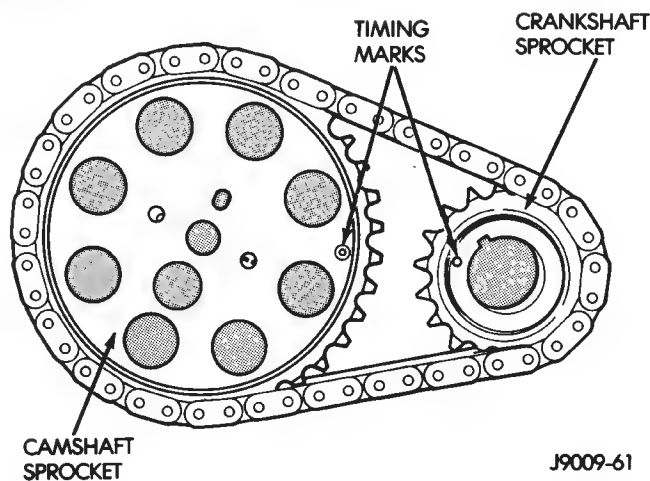

Fig. 5 Crankshaft—Camshaft Alignment—Typical
(1) Disconnect negative cable from battery.
(2) Remove the fan and shroud.
(3) Remove the serpentine drive belt.
(4) Remove the crankshaft vibration damper.
(5) Remove the timing case cover.
(6) Rotate crankshaft until the "0" timing mark is closest to and on the center line with camshaft sprocket timing mark (Fig. 5).
Assemble the timing chain, crankshaft sprocket and camshaft sprocket with the timing marks aligned (Fig. 5).